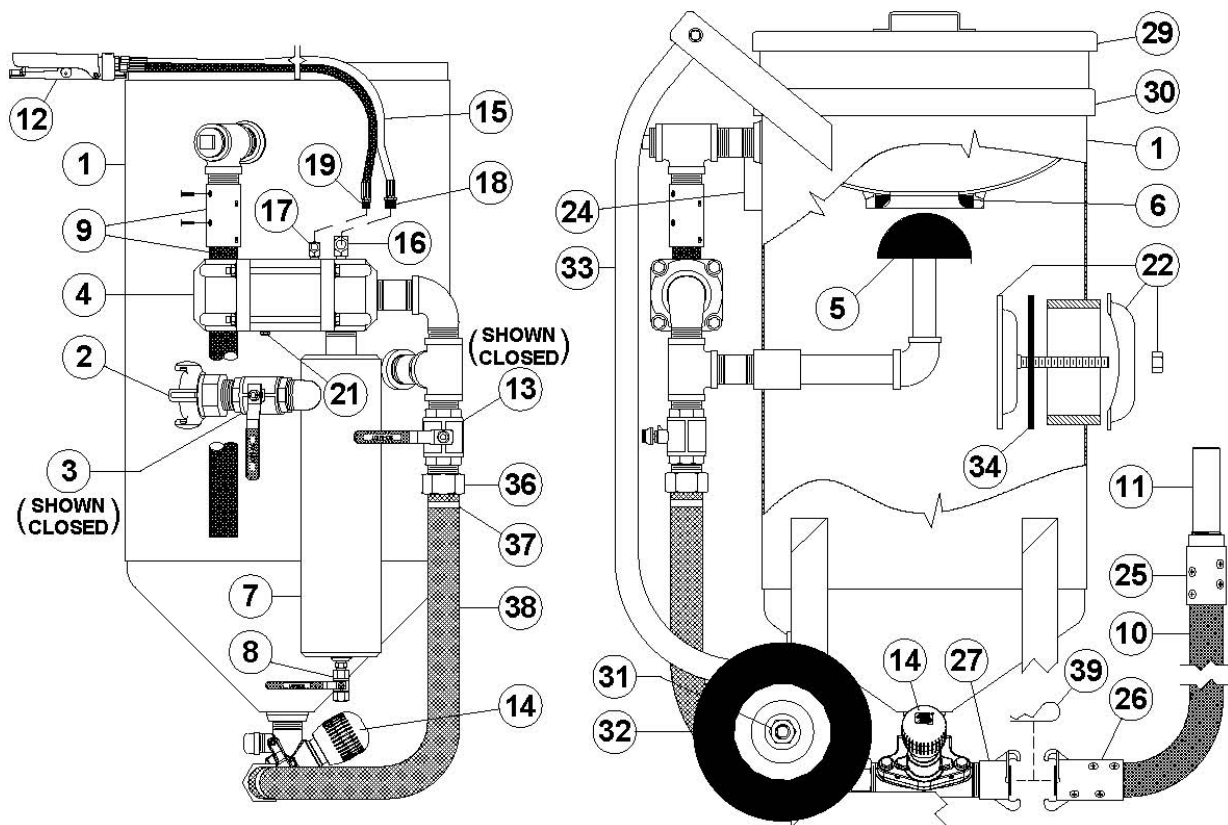

Figure 7.4 – Micro Valve Abrasive Blaster with pneumatic blast controls
7.4 Ending the Blast Operation (See Figure 7.4)
- 7.4.1. Close the air inlet ball valve (#3). The ball valve is closed when the handle is fully turned to the position shown in Figure 7.4 (handle perpendicular to body). The handle tab will bottom against the ball valve body in the closed position.